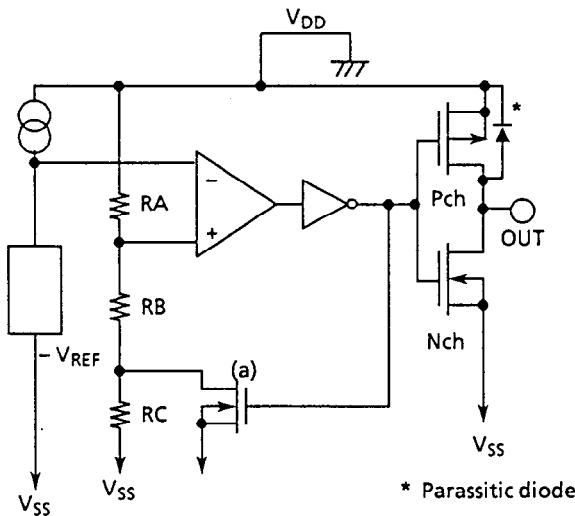
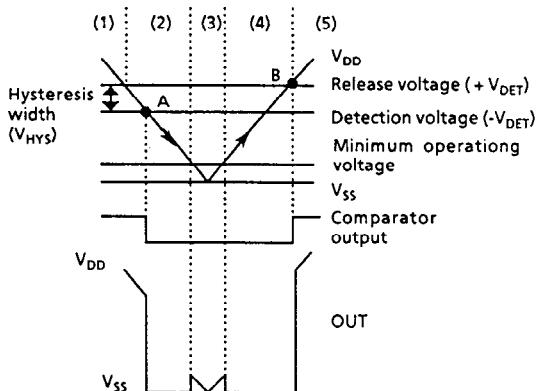

Figure 16
Figure 17
Hysteresis width is the voltage difference between a device's detection voltage and its release voltage (see Figure 17. $V_{HYS} = B-A$). By giving a device hysteresis, erroneous toggling of the output due to noise at the input is avoided.
- (1) When power supply voltage V_{DD} is greater than the release voltage $+V_{DET}$, the Nch transistor is OFF and the Pch transistor ON, causing V_{DD} (high) to appear at the output. With the Nch transistor of Figure 16 (a) off, the comparator input voltage is $(RB + RC)/(RA + RB + RC) \times V_{DD}$.
- (2) When power supply voltage V_{DD} goes below $+V_{DET}$, the output continues to maintain the power supply voltage level, as long as V_{DD} remains above the detection voltage $-V_{DET}$. When V_{DD} does fall below $-V_{DET}$ (A in Figure 17), the Nch transistor goes ON; the Pch transistor goes OFF, and V_{SS} appears at the output. With the Nch transistor of Figure 16 (a) ON, the comparator input voltage is $RB/(RA + RB) \times V_{DD}$.
- (3) When V_{DD} falls below the minimum operating voltage, the output becomes undefined. However, output will revert to V_{DD} if a pull-up has been employed.
- (4) V_{SS} will again be output when V_{DD} rises above the minimum operating voltage. V_{SS} will continue to be output even when V_{DD} surpasses $+V_{DET}$, as long as it does not exceed the release voltage $+V_{DET}$.
- (5) When V_{DD} rises above $+V_{DET}$ (B in Figure 17), the Nch transistor goes OFF, the Pch transistor goes ON, and V_{DD} appears at the output.